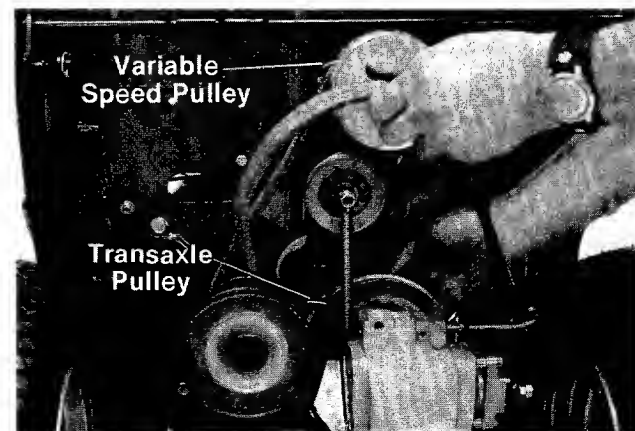

FIGURE 38.
5. Slip the "V"-belt off the variable speed pulley and transaxle pulley. See figure 38.